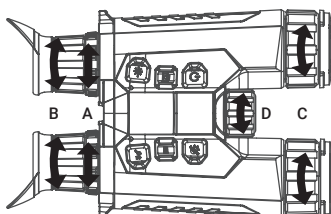

FIGURE 2-3. FOCUS ADJUSTMENT
5. Adjust the interpupillary distance by moving the eyepieces (Fig.2-3, A) farther or closer to each other.
6. Rotate the diopter adjustment rings (B) until the on-screen display (OSD) text or image is clear. Once completed, diopter adjustment will no longer be needed again until the device is used by a new user.
7. Point the device towards the target of the view. Bring the object into focus by rotate the objective focus rings (C).
8. In the optical NIGHT or AUTO mode slightly rotate the IR focus (D) to adjust the beam angle of the infrared light. The broader the beam angle is, the more spread-out but less intense the light will be.